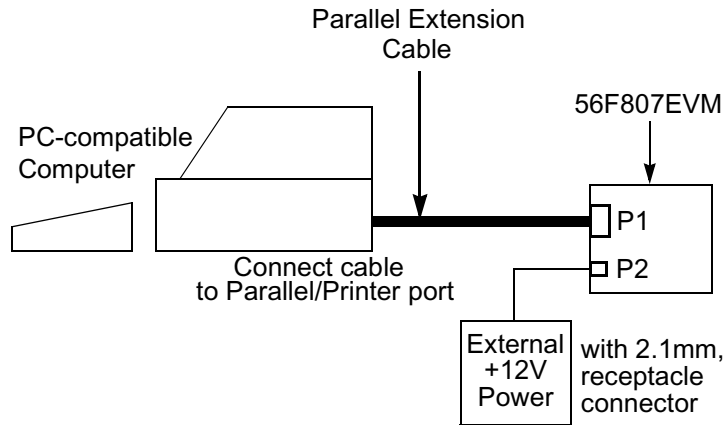

Figure 1-3. Connecting the 56F807EVM Cables
An interconnection diagram is shown in **Figure 1-3** for connecting the PC and the external +12V DC power supply to the 56F807EVM board.
2. Connect the other end of the parallel extension cable to P1, shown in **Figure 1-3**, on the 56F807EVM board. This provides the connection which allows the host computer to control the board.
4. Connect the 2.1mm output power plug from the external power supply into P2, shown in **Figure 1-3**, on the 56F807EVM board.